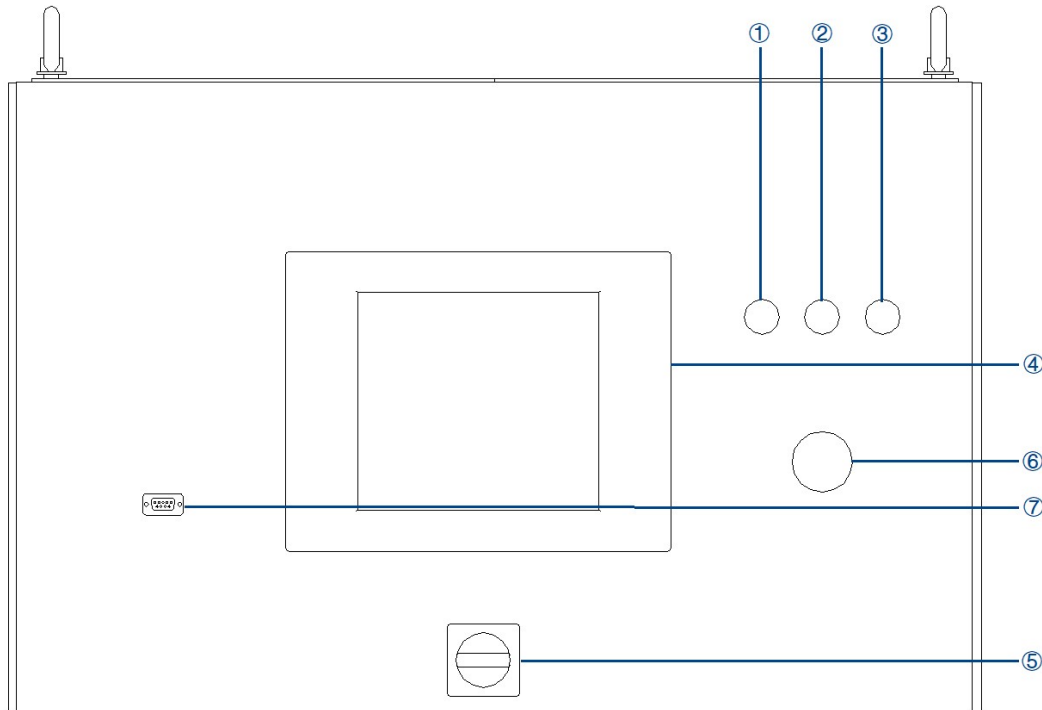
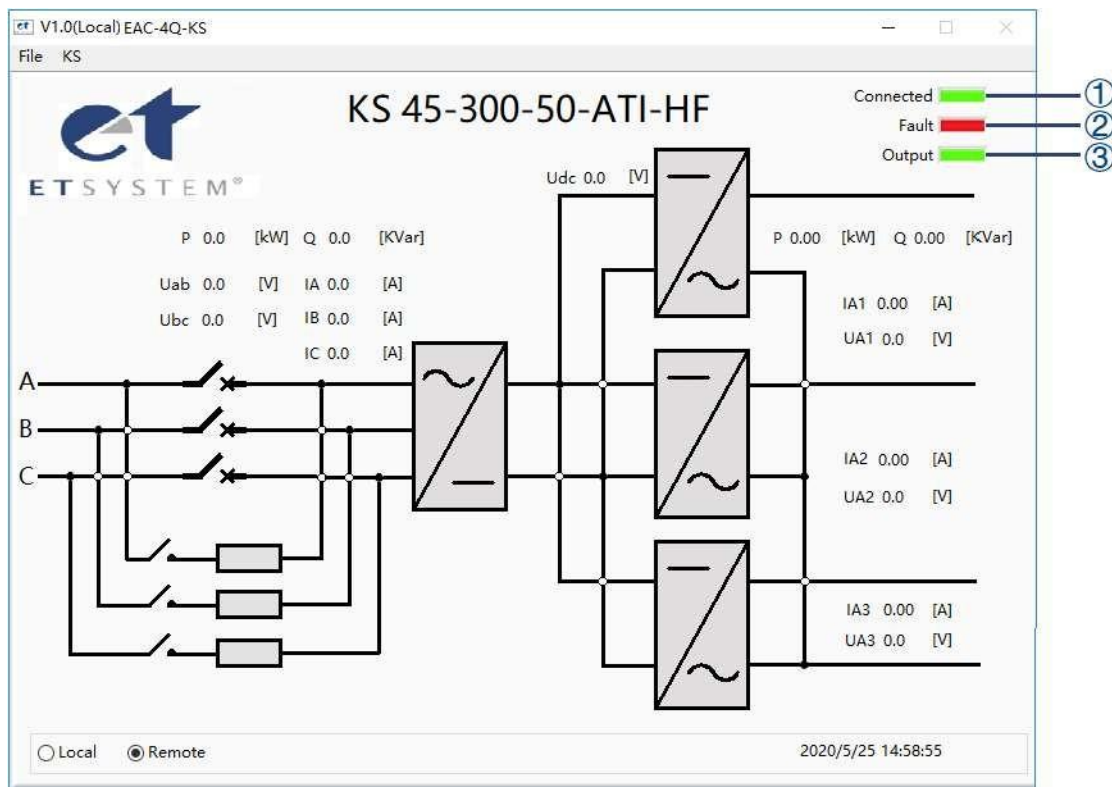

Figure 3-3 Front Panel
Figure 5-1 Main panel
Turn clockwise to close the control switch on front panel (figure 3-3⑤) after closing the cabinet door, the power supply is standby. If the power supply communication connection is normal, the white light is always on (figure 3-3①).
EAC-4Q-KS series provides GUI software, which is installed on the front touch screen using the windows OS. (the software can also be installed on the control PC connected to the power supply). A few seconds after the power supply is initialized, the control unit and touch screen work, the power supply is standby. If the power supply communication is normal, the white light (Figure 3-3 ①) and the “connected” green light (Figure 5-1 ①) is always on. All functions and parameters can be accessed through the TFT-Touch panel or GUI software to set up and run.
④	Power On	It is used for the network side on/ off. When the network side is on, the button is green, and when the network side is off, the button is red.
Output On	It is used for the output side on/ off, the button is green while outputting, and the green indicator of "Output" is always on (Figure 5-1③). When there is no output, the button becomes red.